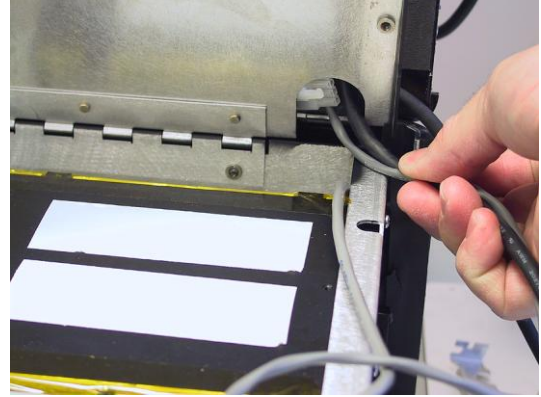

Figure 5-104
- 10) The power and video cables for the right monitor (and also and the soft power cable) must be removed from the inner chassis cover cable channel as shown in Figure 5-104.